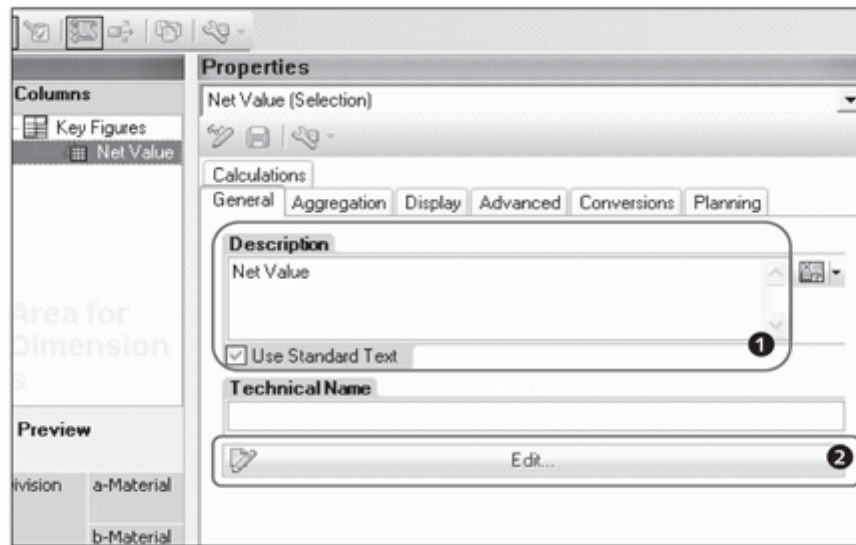

Figure 9.71 Key Figure Properties – General Tab
In this section, we take a look at different properties for key figure query elements. The Properties screen for a query element involving a key figure shows seven different tabs (see Figure 9.71). These tabs and important properties are explained next.
You maintain the description and technical name for the query element on this tab (❶ of Figure 9.71). The description maintained here is visible in the query output. If you want to keep the default description from the key figure InfoObject description, select the Use Standard Text checkbox. Additionally, you can edit the definition of the element by clicking on the Edit button (❷).